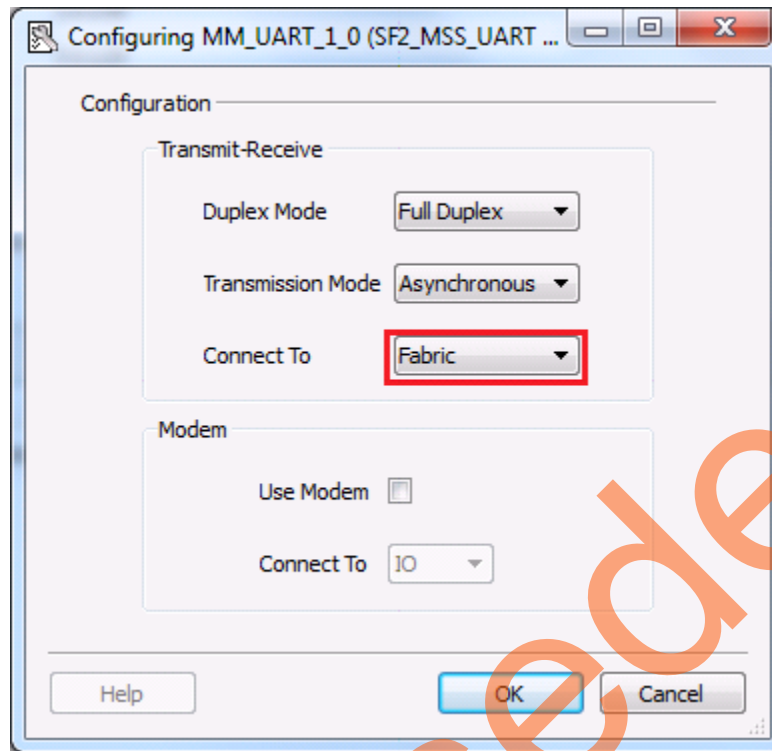

Figure 9 • Configuring MM_UART_1
12. In the **MM_UART_1** configurator window, select **Fabric** from the **Connect To** drop-down list, as shown in Figure 9.